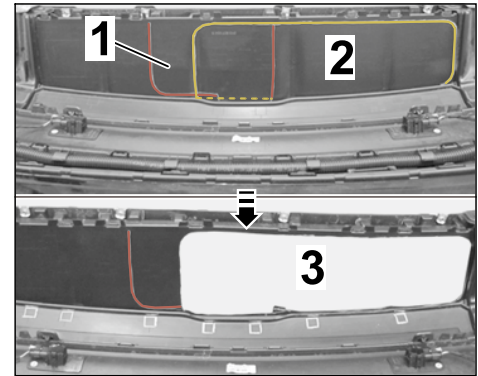

Figure 6
- 1.9.2 Mark the cut-out for the ball hitch at the impression on the inside of the rear apron (⇒ *Figure 6 -top-*).
- 1.9.3 Carefully make the cut-out at the marking (⇒ *Figure 6 -bottom-*).